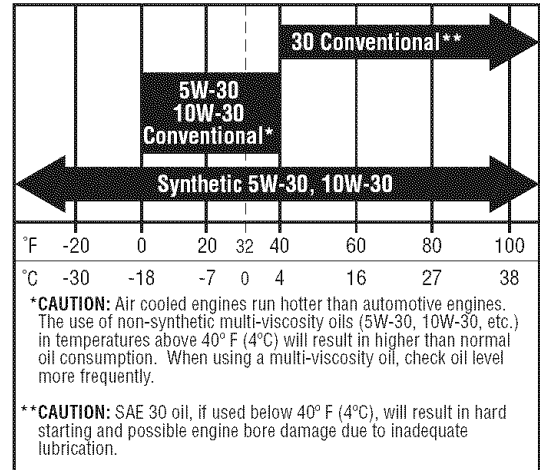
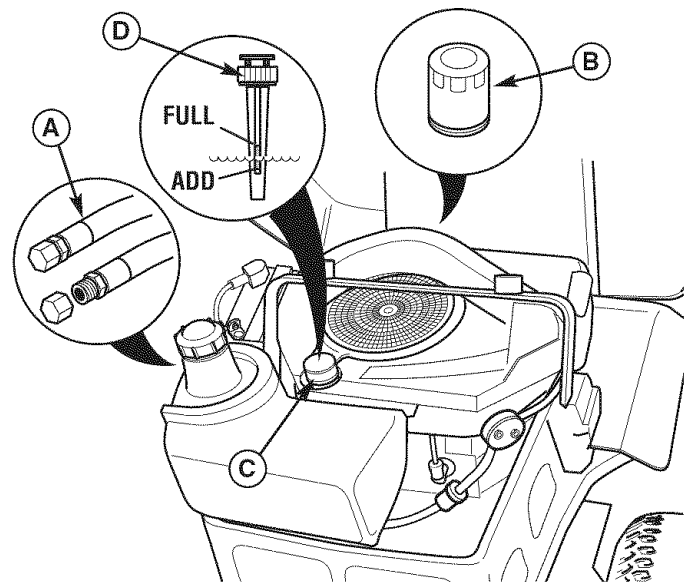

Figure 28. Recommended Engine Oil - Briggs & Stratton Models
Figure 29. Oil Change - Briggs & Stratton Models
2. Clean the area around the dip stick (C, Figure 29).
3. Remove the dip stick (C) and clean it with a paper towel.
4. Insert the dip stick back into the engine. Thread the cap back onto the tube (D).
5. Remove the dip stick and read the oil level. The oil level should be between the "FULL" and "ADD" marks (D). If not, add oil according to the oil recommendations chart (Figure 28).
1. Clean the area around the dip stick (C, Figure 29) and oil drain tube (A).
2. Remove the oil drain plug (A) from the end of the oil drain tube. Remove the dip stick (C). Allow ample time for complete drainage.
3. Reinstall the oil drain plug (A) and route the hose next to the engine.
1. Clean the area around the dip stick (C, Figure 29) and oil drain (A).
2. Remove the oil drain plug (A) and dip stick (C). Allow ample time for complete drainage.
3. Remove the oil filter (B). Discard the filter.